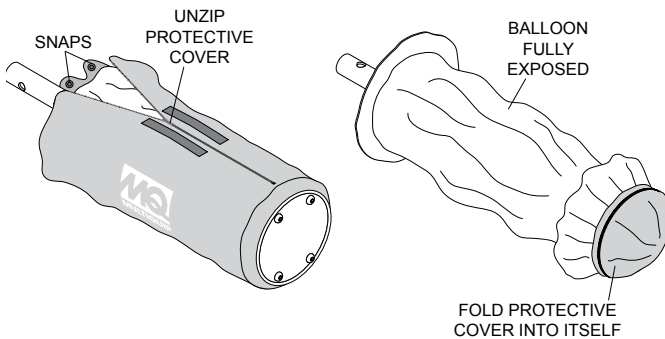

Figure 28. Removing Protective Cover
1. Expose the balloon by unsnapping the buttons and unzipping the protective cover as shown in Figure 28.
2. Next, fold the protective cover into itself and zip. See Figure 28.